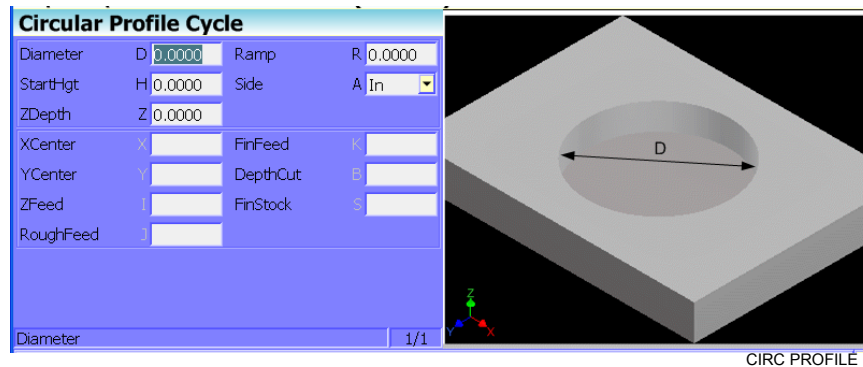

Figure 4-15, Circular Profile Cycle Graphic Menu
The Circular Profile Cycle cleans up the inside or outside profile of an existing circle. Refer to **Figure 4-15**.
2. Highlight **Circ Profile** and press **ENTER** to display the Circular Profile Cycle Graphic Menu. Refer to Figure 4-15, Circular Profile Cycle Graphic Menu.